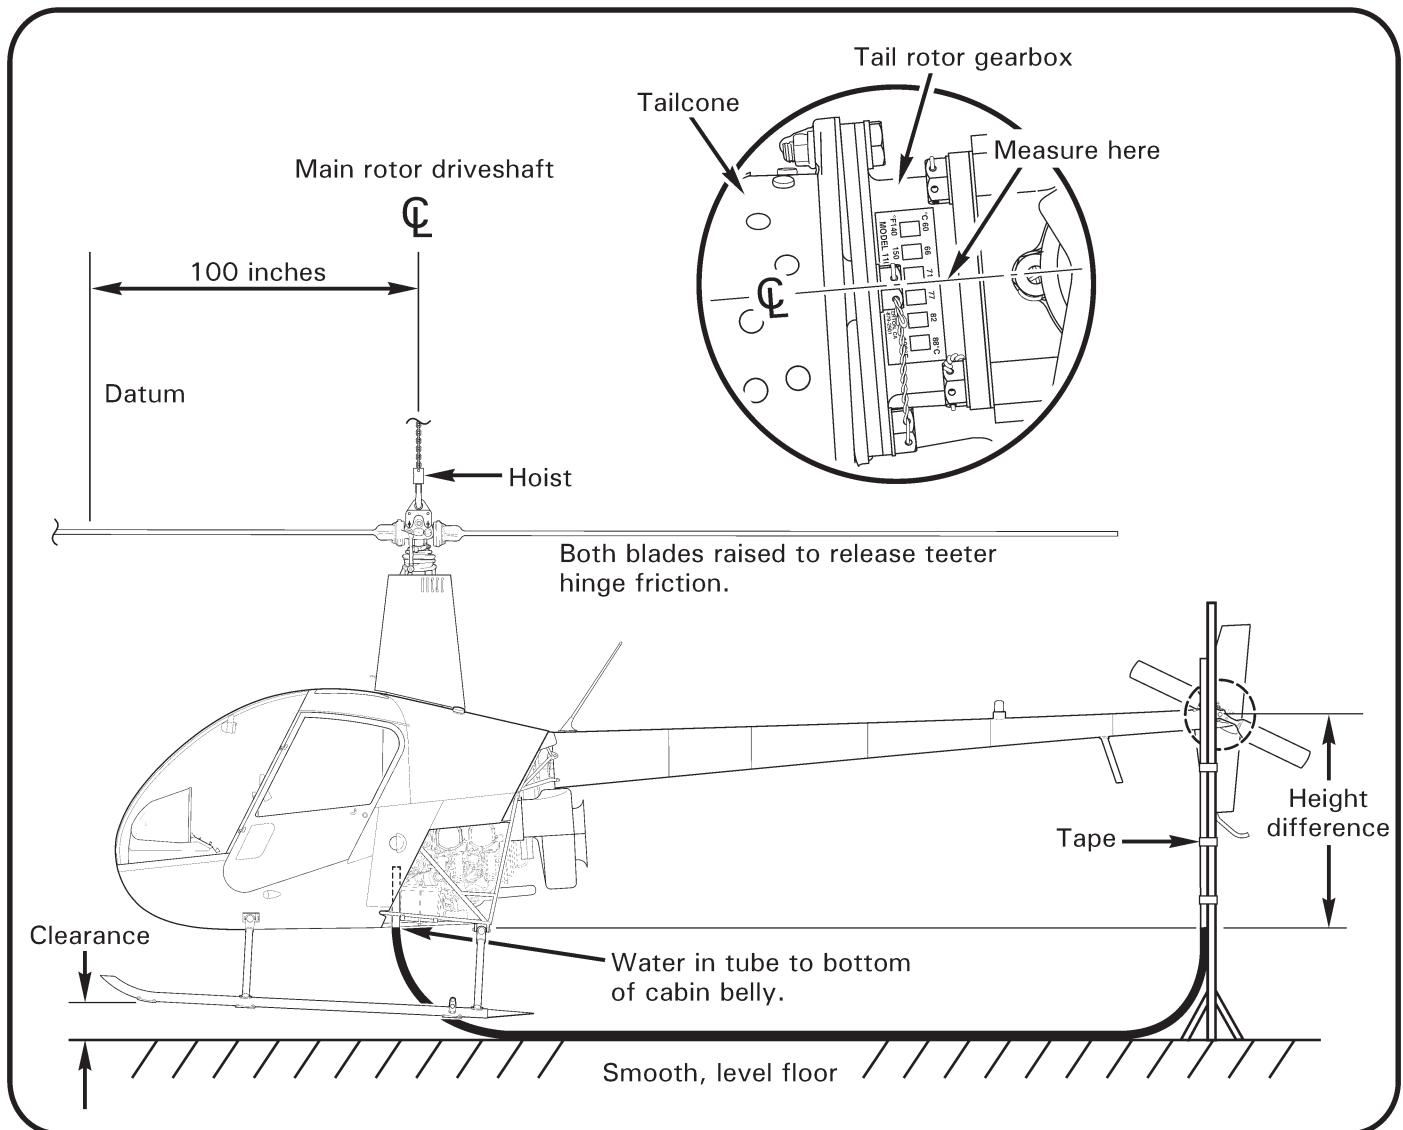

FIGURE 18-2 DETERMINING CG USING WATER LEVEL
4. Refer to Figure 18-2. With aircraft hanging freely and steady, use a water level and measure difference in vertical height between tail rotor gearbox centerline and cabin belly at vertical firewall. Ensure no air bubbles in water level tube.